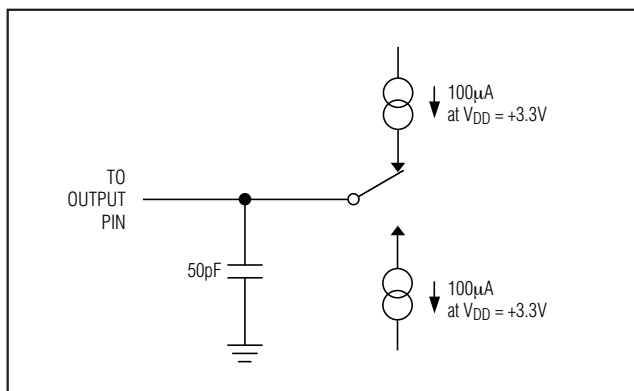

図1. バス放棄時間及び $V_{OL}$ と $V_{OH}$ レベルのための
**Note 26:** Measured with the load circuit of Figure 1 and defined as the time required for the output to cross the  $V_{OL}$  or  $V_{OH}$  limits.
**Note 28:** Derived from the time taken by the data output to change 0.5V when loaded with the circuit of Figure 1. The number is then extrapolated back to remove effects of charging or discharging the 50pF capacitor. This ensures that the times quoted in the timing characteristics are true bus-relinquish times and are independent of external bus loading capacitances.